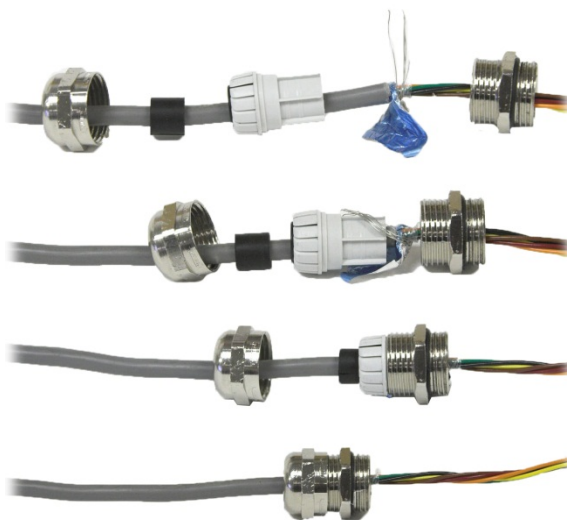

Figure A-21: Cable Shield Grounding
5. Cable shielding should be grounded to the IND570's enclosure by spreading the shield wires as shown at the top of Figure A-21, then folding them back over the plastic component of the cable gland before pressing it into the threaded body.